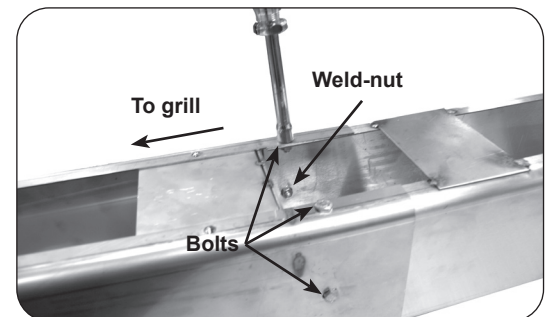

Fig. 25-2 Fasten extension to post
2. From outside the joined post and extension, insert one of the  $\frac{1}{4}$  X 20"-5/8 bolts (supplied) into each of the five (5) bolt holes and tighten each using a  $\frac{7}{16}$ " socket driver or wrench (see Fig. 25-2).